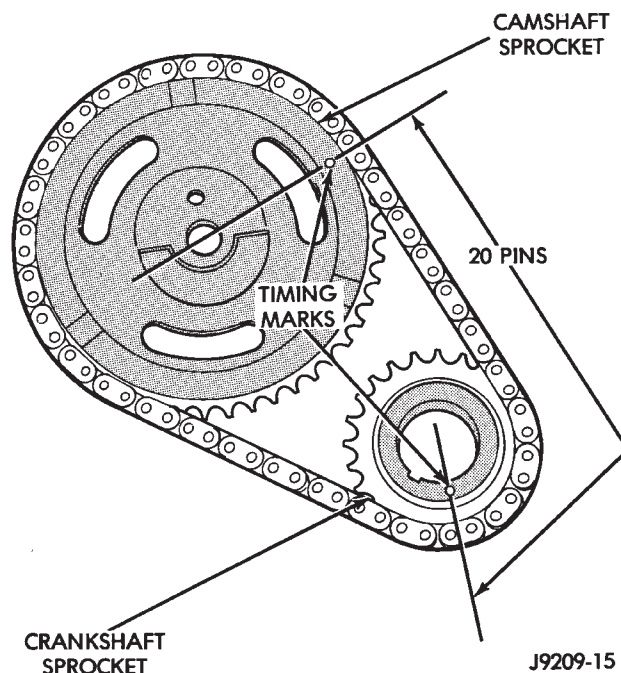

Fig. 50 Verify Crankshaft—Camshaft Installation
(5) To verify correct installation of the timing chain, turn the crankshaft to position the camshaft sprocket timing mark as shown in (Fig. 50). Count the number of chain pins between the timing marks of both sprockets. There must be 20 pins.